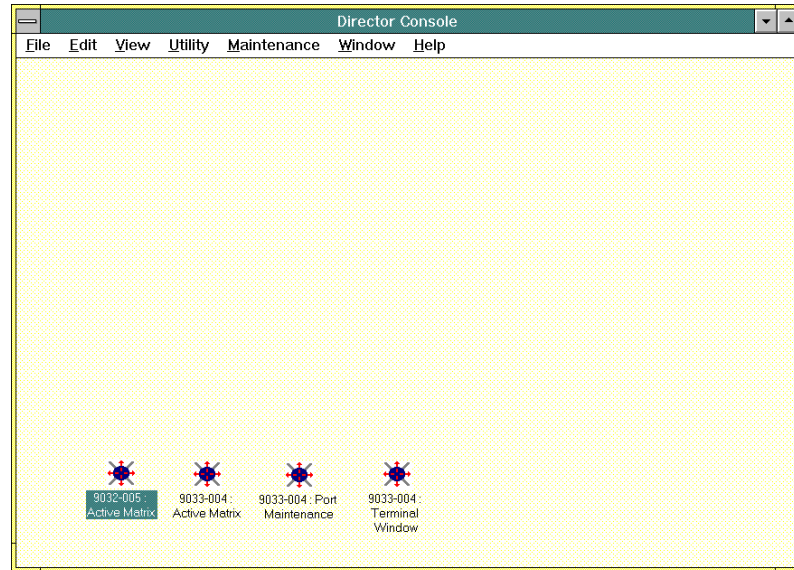

Figure 56. Arranged Icons
- **Arrange Icons** - This option organizes all windows that are minimized (shown as icons) along the bottom of the application window (Figure 56).